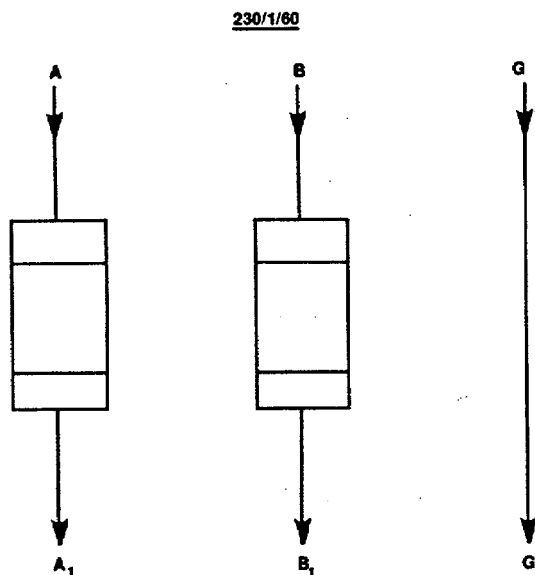

Figure 2-4. Checking Three Phase Circuit Fuses.
- 4 In a three phase circuit turn the power ON and check between A-C₁, C-B₁, and C-A₁ with a voltmeter (FIGURE 2-4). If no voltage: